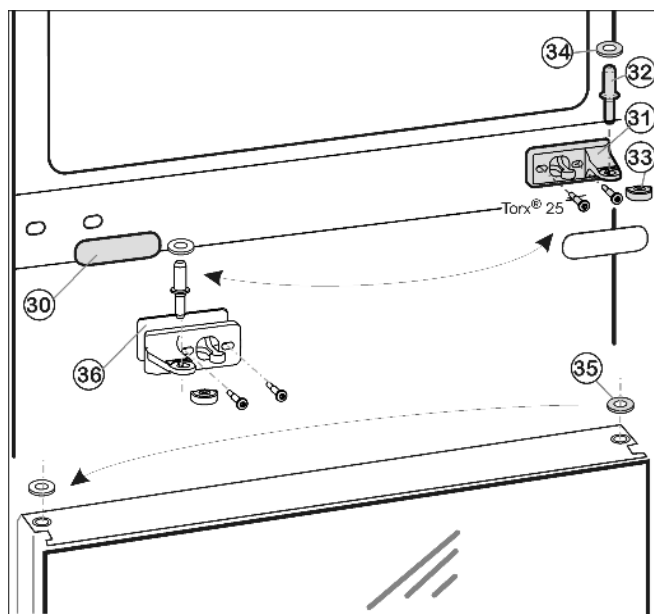
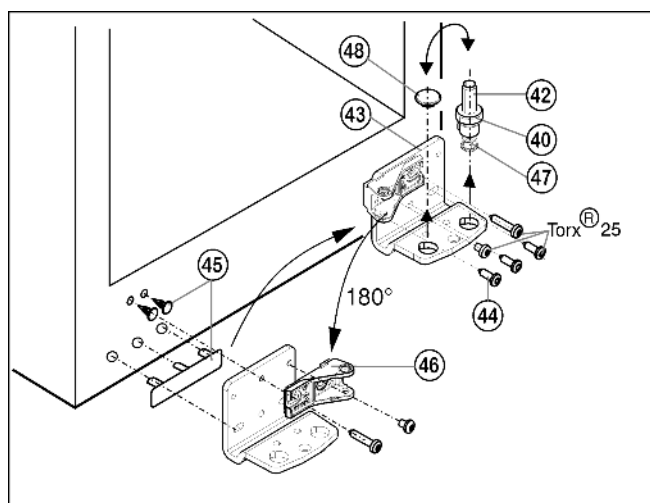

Fig. 11
Fig. 12
- ▶ Draw the middle bearing pin *Fig. 11 (32)* together with the washer *Fig. 11 (34)* out of the turn hinge and lower door.
- ▶ Remove the plastic cap *Fig. 11 (33)*.
- ▶ Unscrew the middle turn hinge *Fig. 11 (31)* (2x Torx® 25).
- ▶ Carefully detach the cover panel Fig. 11 (30).
- ▶ Turn the middle turn hinge Fig. 11 (31) with the washer Fig. 11 (36) through 180° and screw it **firmly** into place on the new hinge side (**with 4 Nm**).
- ▶ Turn the cover panel Fig. 11 (30) through 180° and snap it into place again on the new handle side.
- ▶ Transfer the washer Fig. 11 (35) on the door.
- ▶ Lift out the bearing pin Fig. 12 (42) together with washer Fig. 12 (40) and adjustable-height foot Fig. 12 (47).
- ▶ Lift off the stopper Fig. 12 (48).
- ▶ Unscrew the turn hinge Fig. 12 (43).
- ▶ Carefully lift off the cover on the handle side and stopper Fig. 12 (45) and transfer them to the opposite side.
- ▶ Screw the bottom turn hinge Fig. 12 (43) firmly into place (**with 4 Nm**) on the new hinge side, possibly using a cordless screwdriver.
- ▶ Unscrew the bearing element Fig. 12 (46), turn it through 180° and screw it back firmly into place, always screw the long screw into the oblong hole!
- ▶ Re-insert the stopper Fig. 12 (48) into the other hole.
- ▶ Re-insert the bearing pin Fig. 12 (42) together with the washer and adjustable-height foot. In so doing, pay attention that the locating lug points backwards
- ▶ Place the door from above onto the lower bearing pin Fig. 12 (42).
- ▶ Place the plastic cap Fig. 11 (33) back onto the middle turn hinge Fig. 11 (31).
- ▶ Place the middle bearing pin Fig. 11 (32) in the lower door, on the new hinge side, through the middle turn hinge Fig. 11 (31).
- ▶ Attach the washer Fig. 11 (34) to the middle bearing pin Fig. 11 (32).
- ▶ Place the upper door on the middle bearing pin Fig. 11 (32).
- ▶ If necessary, align the doors to the appliance housing by way of the oblong holes in the bottom turn hinge *Fig. 12 (43)* and middle turn hinge *Fig. 11 (31)*. To do so, unscrew the middle screw in the bottom turn hinge *Fig. 12 (43)*.